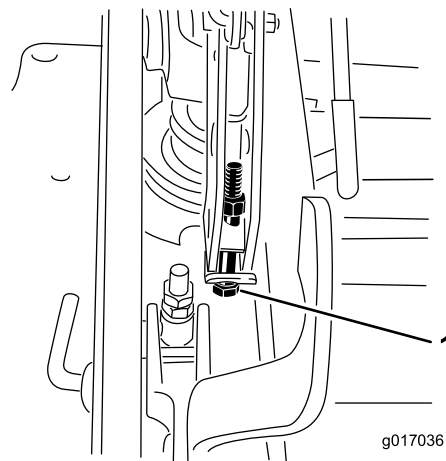

Figure 75
13. If the deck is too low, tighten the single point adjustment bolt by rotating it clockwise. If the deck is too high, loosen the single point adjustment bolt by rotating it counterclockwise (Figure 75).